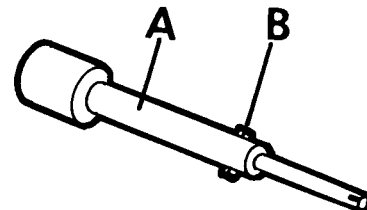
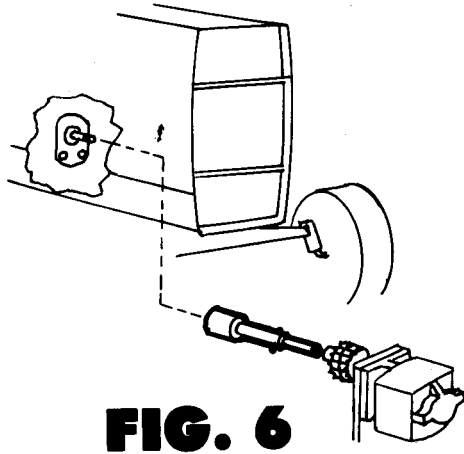

FIG. 5
FIG. 6
5. Refer to FIG. 5.
Slide splined end of Drive Shaft over splined end of tractor PTO (underneath tractor). (see Fig. 6) Extend shaft length to reach chain coupling on end of Pump. Line up key and key-way and insert into chain coupling until drilled holes in Drive Shafts line up. Insert high strength bolt, lockwasher, and nut.
6. Refer to FIG. 6.
3. Refer to FIGS. 5 and 6.
Locate pre-assembled Drive Shaft Assembly. (see Fig. 5) Remove tape from around key. Remove Nut, Lockwasher and Bolt (B). This Bolt is a high strength bolt, do not mix it up with other bolts. Slide shaft together to shortest length. Slide splined end of Drive Shaft over splined end of tractor PTO (underneath tractor). (see Fig. 6) Extend shaft length to reach chain coupling on end of pump. Line up key and key-way and insert into chain coupling until drilled holes on drive shaft line up. Insert high strength bolt, lockwasher and nut through shafts and tighten.